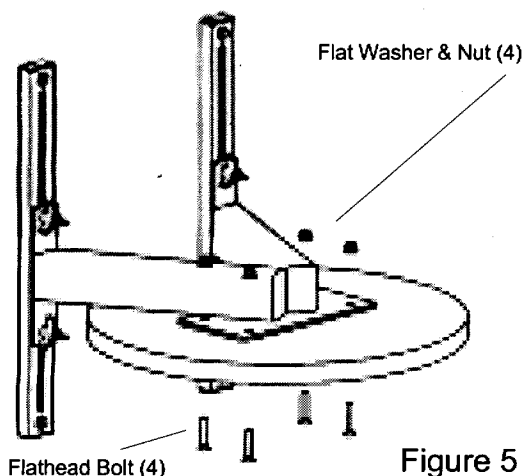

Figure 5
5. Attach the Wood Drum to the Main Support. Note that the 2 rubber bumpers on the bottom face of the Main Support are there to help reduce vibration. Do not remove them. While a helper holds the Drum in place, insert a 3/8" Flathead Bolt into each of the four holes in the Drum. Secure with a flat washer and nut, Figure 5. Tighten the nuts completely.